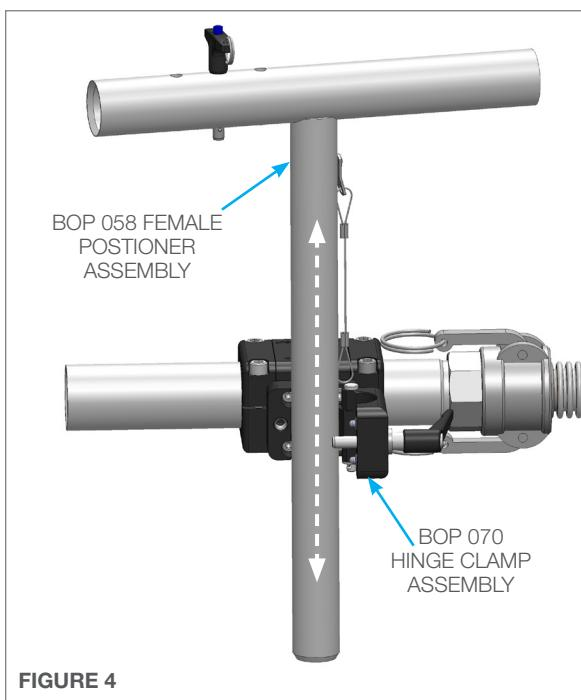

FIGURE 4
- Insert the BOP 058 Female Positioner Assembly into the Hinge Clamp Assembly. This can be done in the open or closed position and is designed to be adjustable based on the size of the pipe. (**Figure 4**)